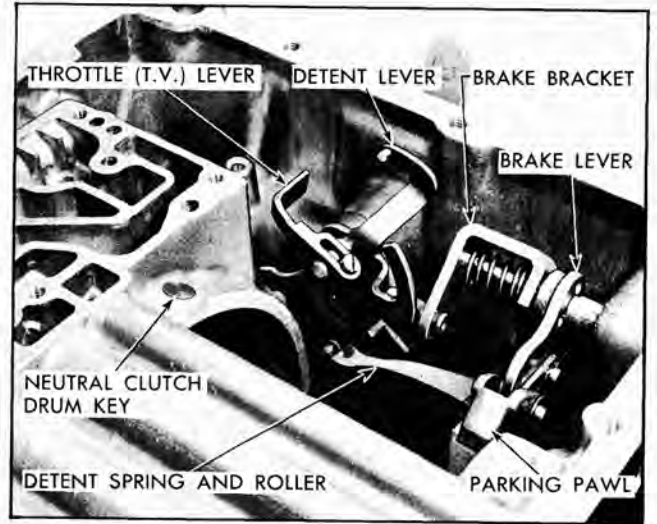

Fig. 66 Levers and Parking Linkage
14. Remove neutral clutch drum locating key from transmission case (Fig. 66).
1. Loosen inner T.V. (throttle) lever to T.V. shaft clamp screw (Fig. 66).